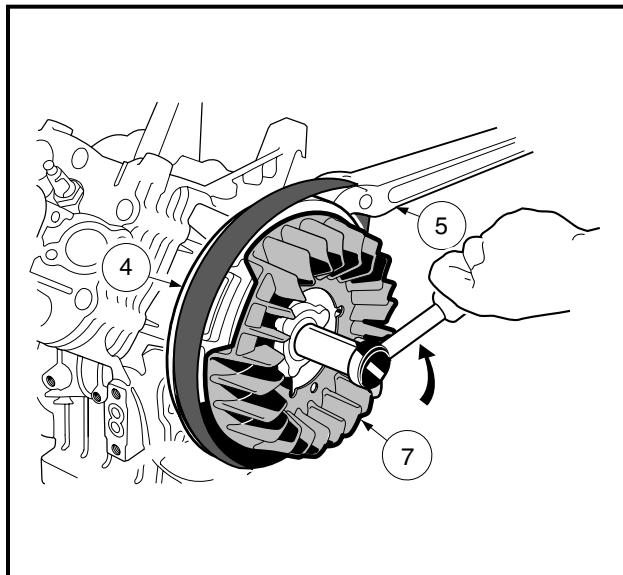

Figure 3-56 Flywheel Nut
3. Hold the flywheel (4), not the fan (7), with a strap wrench (5) and use a 25 mm socket to remove the flywheel nut (and flat washer) by turning it counterclockwise (**Figure 3-56, Page 3-29**). See following **CAUTION**.